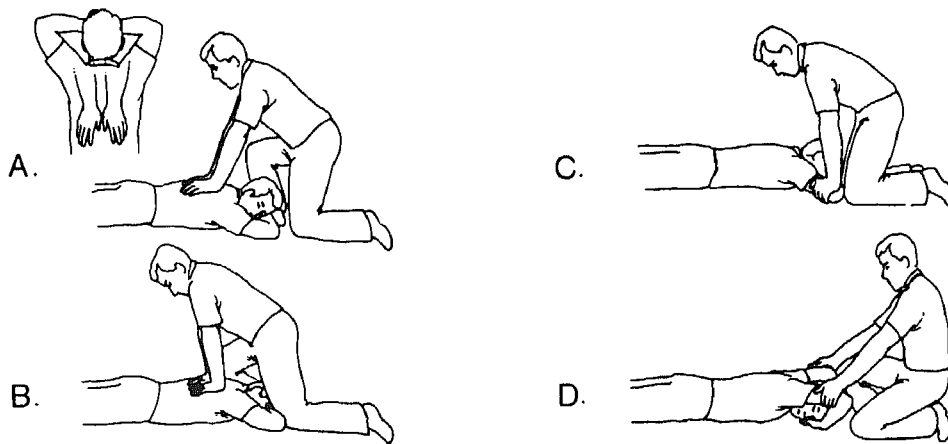

Figure 18-13.—Back-pressure arm lift.
1. Place the victim in the prone position, face to one side, and neck hyperextended with the hands under the head. See figure 18-13, view A. Quickly clear the mouth of any foreign matter.
just below a line between the armpits, with thumbs touching and fingers extending downward and outward (fig. 18-13, view B).
4. Then rock backward, releasing the pressure and grasping the arms just above the elbows (fig. 18-13, view C).
5. Continue to rock backward, pulling the arms upward and inward (toward the head) until resistance and tension in the shoulders are noted (fig. 18-13, view D). This pulling action expands the chest causing active intake of air (inspiration). Rock forward and release the victim's arms. This causes passive exiting of air (expiration).